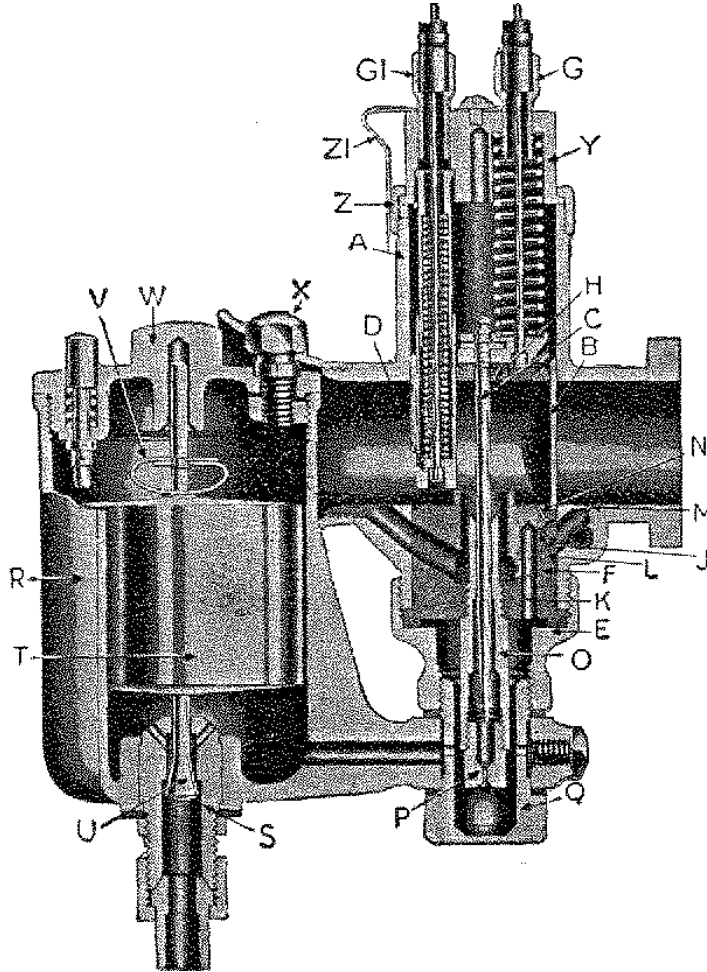

FIG. 8. SECTIONAL VIEW OF AMAL STANDARD NEEDLE-JET CARBURETTOR FITTED TO ALL 1945-54-MODELS
An understanding of the working of the standard Amal carburettor is desirable before considering its tuning and maintenance. Referring to Fig. 8, showing a sectional view of the Amal semi-automatic carburettor, (A) is the carburettor body or mixing chamber, the upper part of which has a throttle valve (B), with taper needle (C) attached by a needle clip. The throttle valve regulates the quantity of mixture supplied to the engine. Passing through the throttle valve is the air valve (D), independently operated and serving the purpose of obstructing the main air-passage for starting and mixture regulation. Fixed to the underside of the mixing chamber by the union nut (E) is the jet block (F), and interposed between them is a fibre washer to ensure a petrol-tight joint.
To gain access to the pilot jet on the standard carburettor (see Fig. 8), remove the jet plug (Q) and the float chamber (R), and then detach the jet block (F) by pushing or tapping it out of the mixing chamber. The pilot jet (J) can then be cleared by blowing through it, or by means of a very fine strand of wire.
Dismantling Standard Carburettor. First close both petrol taps and disconnect the twin petrol pipes from the carburettor by undoing the single union-nut at the base of the float chamber. Referring to Fig. 8, loosen the jet plug (Q) and slacken the mixing chamber union-nut (E).
Assembling Standard Carburettor. Referring to Fig. 8, refit the jet block (F) with the fibre washer on its under-side, and screw on lightly the mixingchamber union nut (E). Screw in the needle jet (O) and the main jet (P). Open the air lever 7/8 in. and the throttle twist-grip half way; grasp the air slide between the thumb and the finger and make sure that the jet needle enters the central hole in the barrel (H). Slightly turn the throttle slide until it enters the barrel guide when, on pushing down the slides, the air valve should enter its guide. If not, slightly move the mixing-chamber cap (Y), when the air valve will slide into position. Screw home the mixingchamber knurled cap-ring (Z). No force is necessary.
Insert the jet plug (Q) in the union nut (E) and very firmly tighten the union nut with a suitable spanner. Remove the jet plug, fit the float chamber, and secure with the jet plug. Be sure there is a fibre washer above and below the float-chamber lug as shown in Fig. 8. When the float chamber has been correctly positioned, tighten the jet plug firmly. Finally reconnect the twin petrol pipes and tighten the union nut at the base of the float chamber. In the event of the pilot-jet adjustment having been disturbed, re-tune as described on page 17.